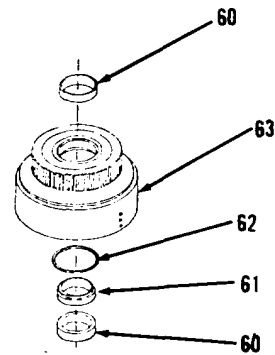

Figure 14-23.
16. Install retaining ring (62), spacer (61) and two bearing cups (60) in drum gear (63, Figure 14-23).